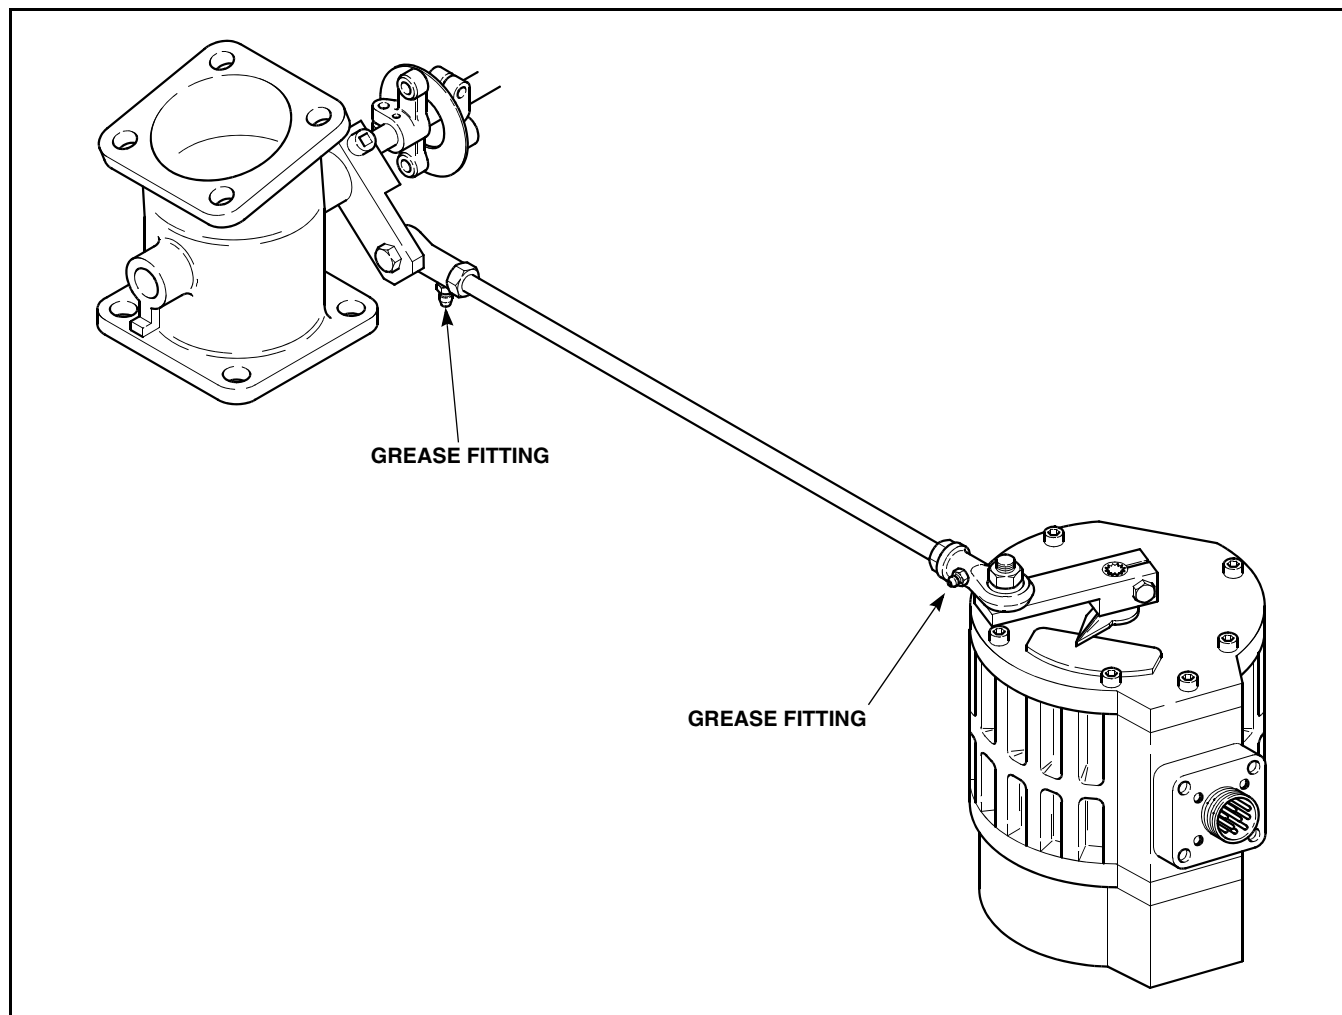

Figure 4.05-6 Grease Fittings on Throttle Actuator Linkage
3. Using a grease gun, lubricate the grease fittings on the throttle actuator linkage with CITGO Lithoplex® Grease NLGI2 (service temperature range 20 – 250° F [-7 – 121° C]) or equivalent (see Figure 4.05-6).